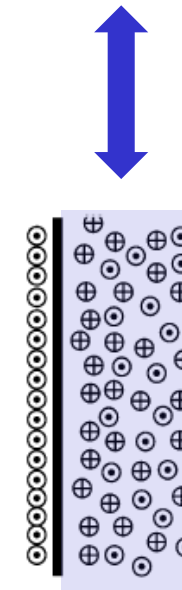

Fig. 4.9 Diffuse double layer because of Brownian motion
- Due to their Brownian motion, counter ions are not fixed nor are colloidal particles at rest. They execute their own Brownian motion and form a dynamic double layer around them (Fig. 4.9)